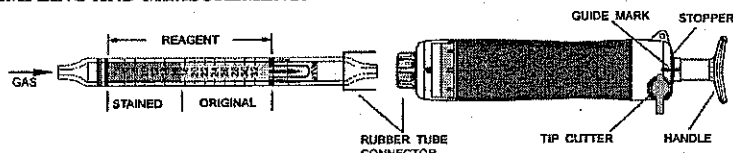

Fig.1
- ② Insert the detector tube into the aspirating pump securely as shown in Fig.1. (Arrow mark shall point to the pump.)
- ③ Align the guide marks on the handle and stopper of the aspirating pump.
- ④ Pull the pump handle at a full stroke until it locks and wait for 30 seconds or until the completion of sampling is confirmed with the flow indicator of the pump (See descriptions about the flow indicator in the instruction manual of the pump).
- ⑤ On completion of sampling, read the scale at the maximum point of the stained layer.
- ① Temperature; Correct the tube reading by following temperature correction table.